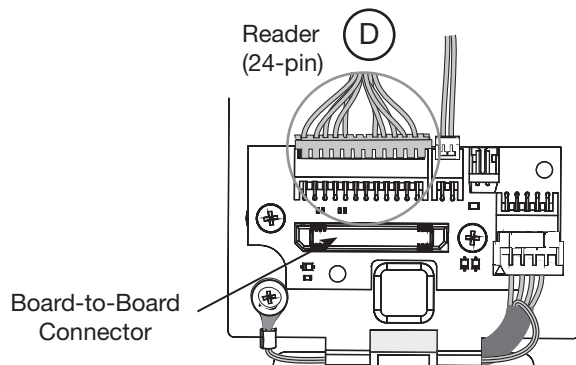

Fig. 10F
- E. Secure the 24-pin card reader connector (Fig. 10F).